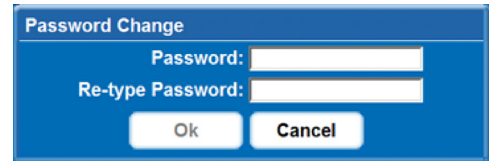

FIGURE 4-12 PASSWORD CHANGE WINDOW
1. Select the user whose password you wish to change from the **Users** window. See *Figure 4-12*.